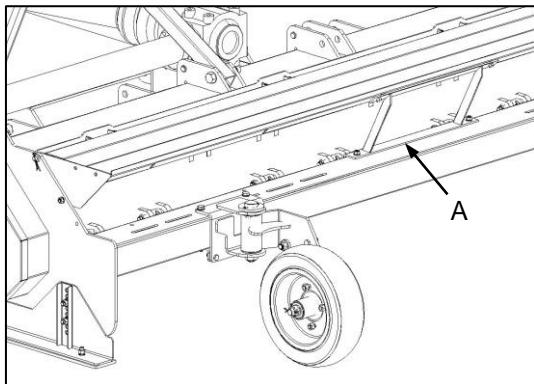

Fig. 1
➤ Discharge mode (Fig. 1)
- ✓ Discharge chute in the open position (Fig. 1), allowing material to be discharged to the rear immediately after having been cut.
- When using the implement in this mode, the discharge chute support bracket (Fig. 1-A) MUST be in place. Failure to observe this requirement will result in structural and mechanical failure not covered under warranty.
➤ Ontladingmodus (Fig. 1)
- ✓ Afvoergeut in die oop posisie (Fig. 1), sodat gesnyde materiaal onmiddellik na agter ontlai kan word.
- Wanneer die implement in hierdie modus gebruik word, MOET die afvoergeutsteunstuk (Fig. 1-A) in posisie wees. Versuim om aan hierdie vereiste te voldoen sal tot strukturele en meganiese onklaarraking lei wat nie onder waarborg gedek word nie.
- ✓ Install the central chute support bracket (Fig. 1-A).
- ✓ Installeer die middelste geutsteunstuk (Fig. 1-A).